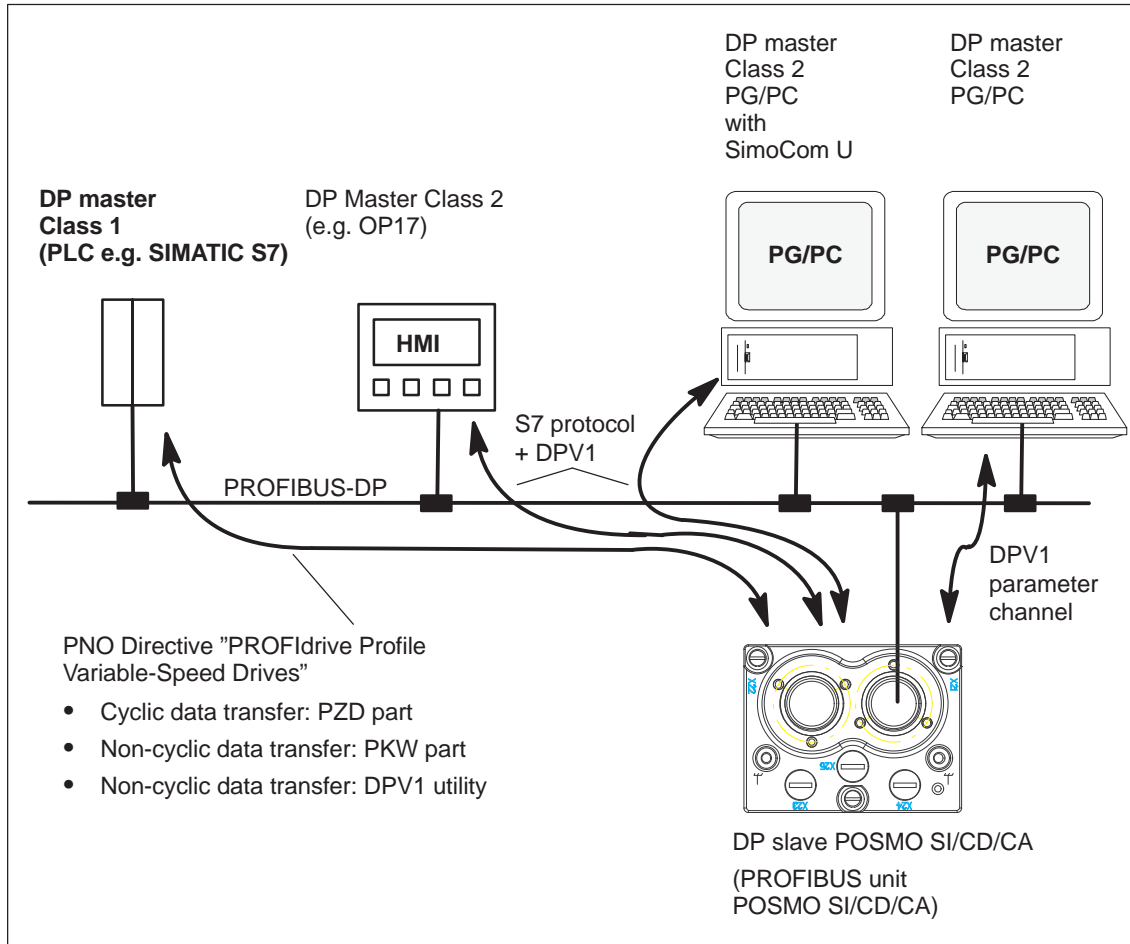

Fig. 5-2 Protocols for "DP slave POSMO SI/CD/CA"
**Protocols** Corresponding to the communications type, the protocols, illustrated in Fig. 5-2, are used for the "DP slave POSMO SI/CD/CA".